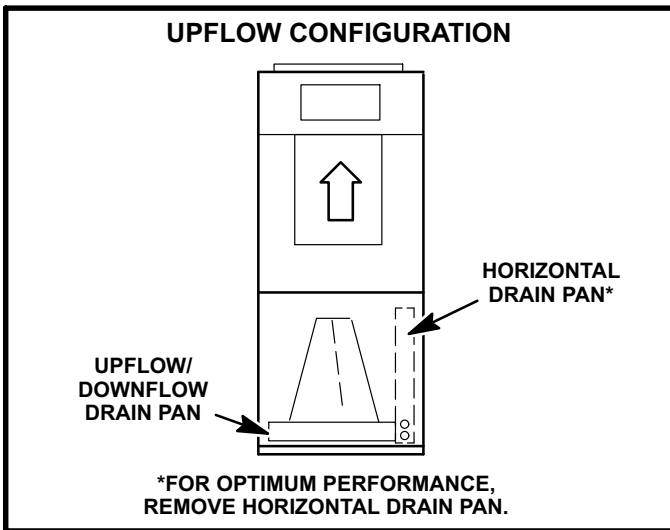

FIGURE 10
- 3- After removing horizontal drain pan, place unit in desired location. Set unit so that it is level. Connect return and supply air plenums as required using sheet metal screws. See figure 10.